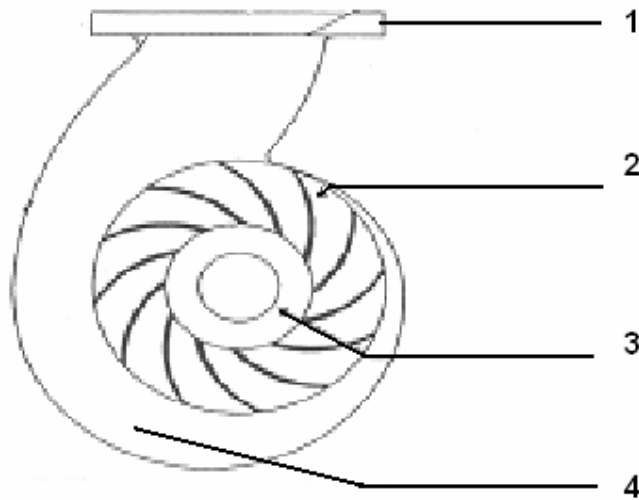

FIGURE 6.1 (4)
- 6.3 FIGURE 6.1 shows the volute casing of a centrifugal pump. Label the parts marked 1 to 4.